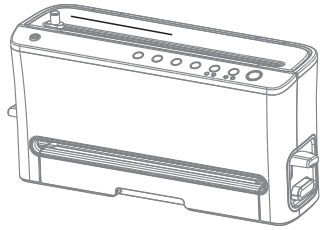

FIG. 2
- 2 Close the Roll Lid. Push the Cutter from left to right to choose the length of the bag you need. (Note: You do not need the cutter if you are using a vacuum bag.) **FIG. 2**